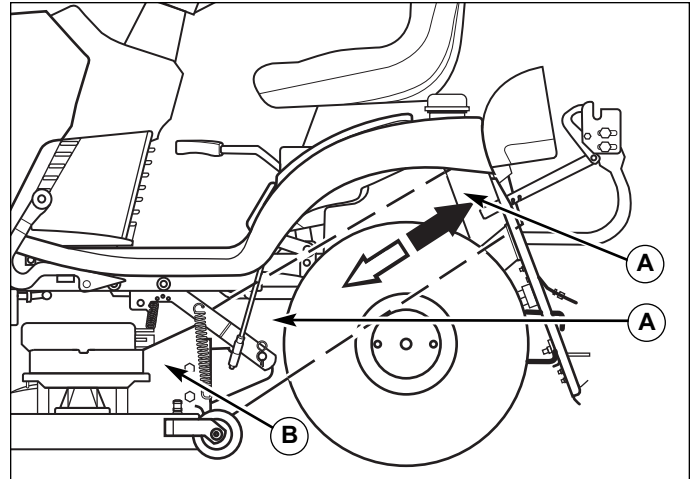

Figure 7. Discharge Chute Tube
8. Push the discharge tube (A, Figure 7) toward the back to separate it from the mower discharge opening (B).
3. Push the discharge chute tube (A, Figure 7) toward the back to separate it from the mower discharge opening.